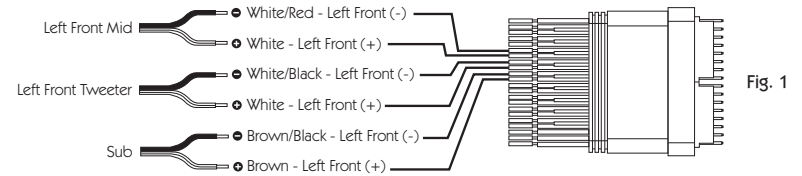

Fig. 1
2. Tap into the factory speaker and subwoofer (if applicable) wires. Connect signal in onto the re-Q⁵ harness. (Fig. 1)